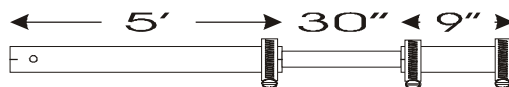

Figure 1
- [ ] 6. Now take the 1.0" x 30" piece of aluminum and place at a minimum 2 inches into the long aluminum element (5' x 1 1/8"). The end of the long (5') piece used should be the one without the hole drilled in it. See Figure 1.